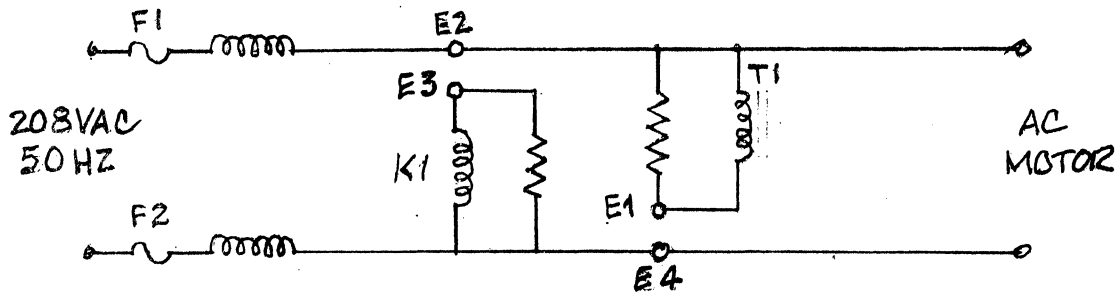

Figure 7-28. Ac Control Board E4 Schematic (Simplified)
- b. Make connection E1 and E3 (Figure 7-28).
Relay, K1, and transformer, T-I, must be placed in series to operate at this voltage (Figure 7-28).